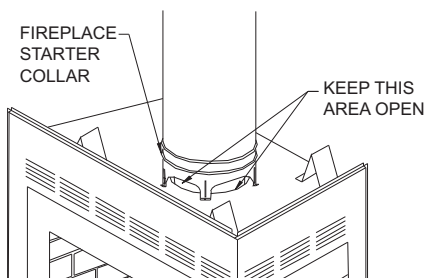

Figure 27 - Fireplace Collar Opening
5. Do not insulate top of firebox. The opening in collar around chimney at top of firebox must not be obstructed (see Figure 27).